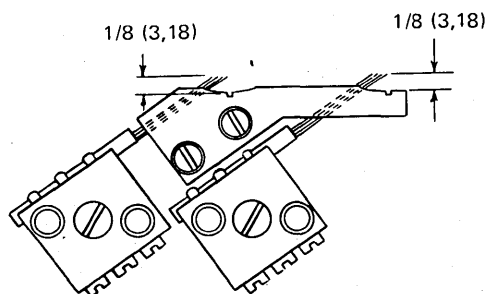

Figure 4-79. Carriage-Tape Brush Projection
1. Position the tape brushes for a 1 in. $1 + 1/32 - 0$ in. (25, 4 + 0, 79 mm) projection from the brush holder (Figure 4-79). Hold the range of adjustment as close as possible because of possible difficulties in timing the stop brushes to the E1 emitter.